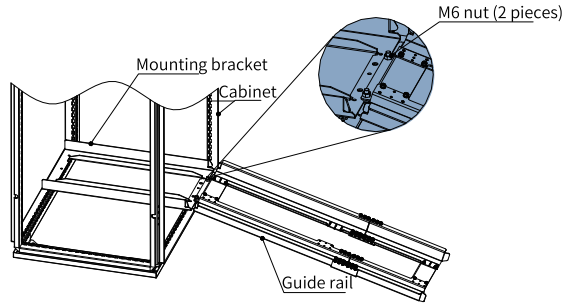

Figure 1-12 Mounting the guide rails on the cabinet
b. Align the two round holes on the front end of the guide rails with the screws of the mounting bracket, and lock them with two M6 nuts, to mount the guide rails on the cabinet, as shown in "Figure 1-12 " on page 23 .